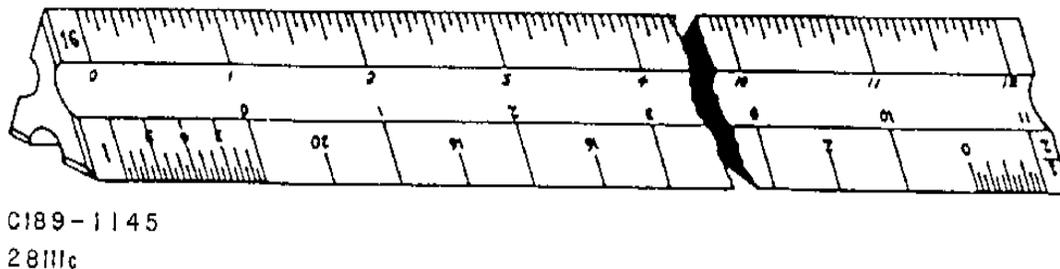

Figure 4. Architect's Scale
6.1. Architect's Scale. Architect's scales are divided into proportional feet and inches. They are generally used in scaling prints for machine and structural work. The triangular architect's scale, shown in Figure 4, usually has 11 scales; each subdivided differently. Six of the scales are read from the right end.